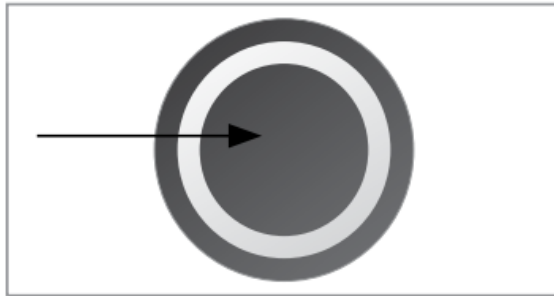
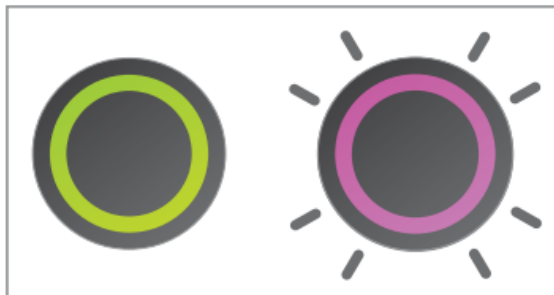

Figure 16
Figure 17
1. Short press the iWOC One button to turn the system on (Figure 16). Verify that the controller light is green; if the controller light is pink, an error is present and must be resolved before riding (Figure 17).